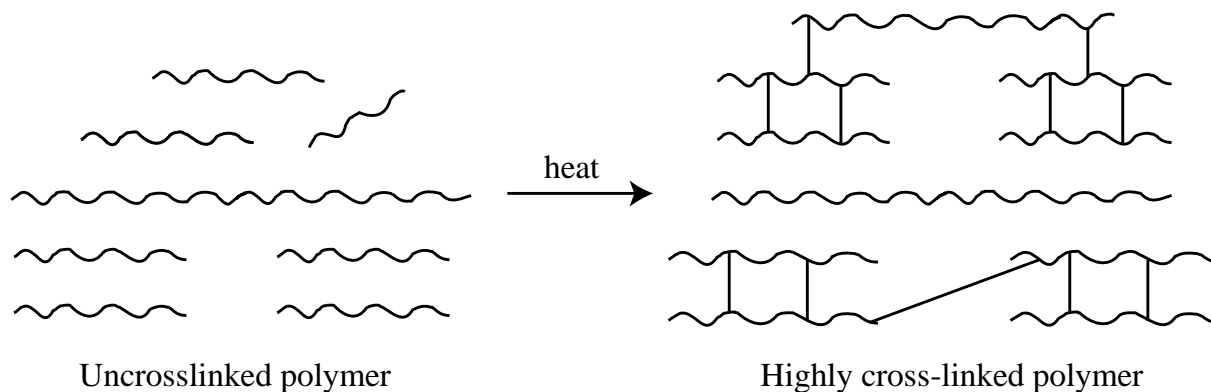

Fig. 23.4 : Conversion of uncrosslinked polymer into highly cross-linked thermosetting polymer on heating.
- (d) **Thermosetting polymers :** Thermosetting polymers are semi-fluid substances with low molecular masses which when heated in a mould undergo change in chemical composition to give a hard, infusible and insoluble mass due to extensive cross-linking between different polymer chains to give a three-dimensional network solid. (Fig. 23.4).